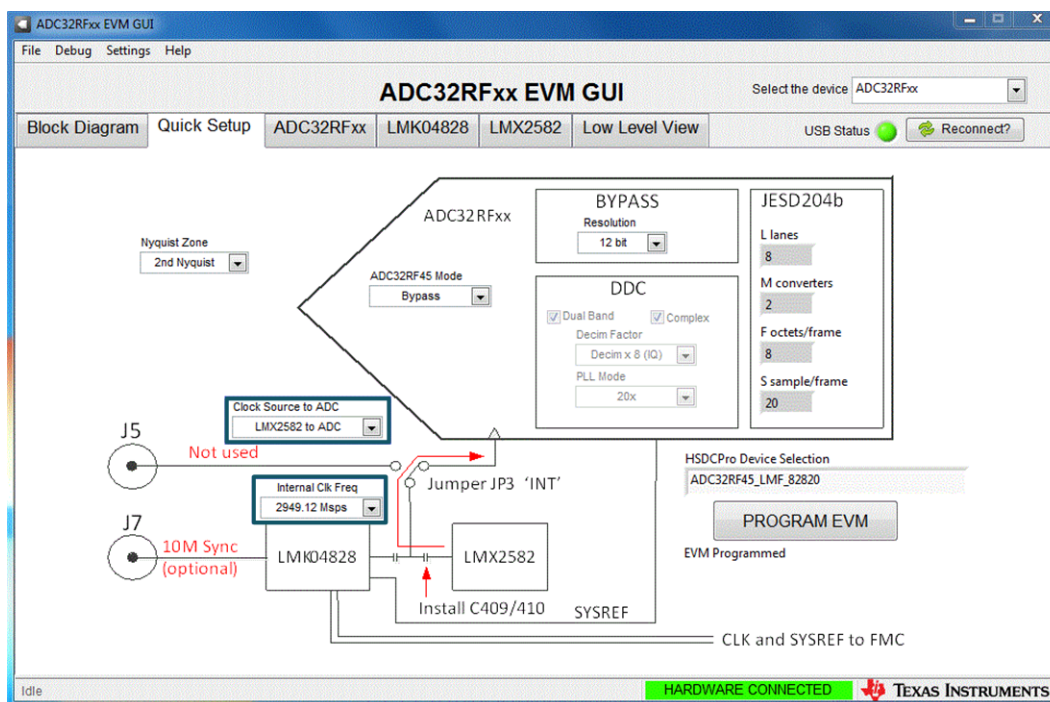

Figure 34. ADC32RFxx EVM GUI With LMX Clock Configuration
2. All but one step to configure the device in this mode are the same as previously described in Section 3.2. The only step different is the choice of *Clock Source to ADC*. That step is to be selected as shown in Figure 34. The rest of the steps in Section 3.2 must be followed.